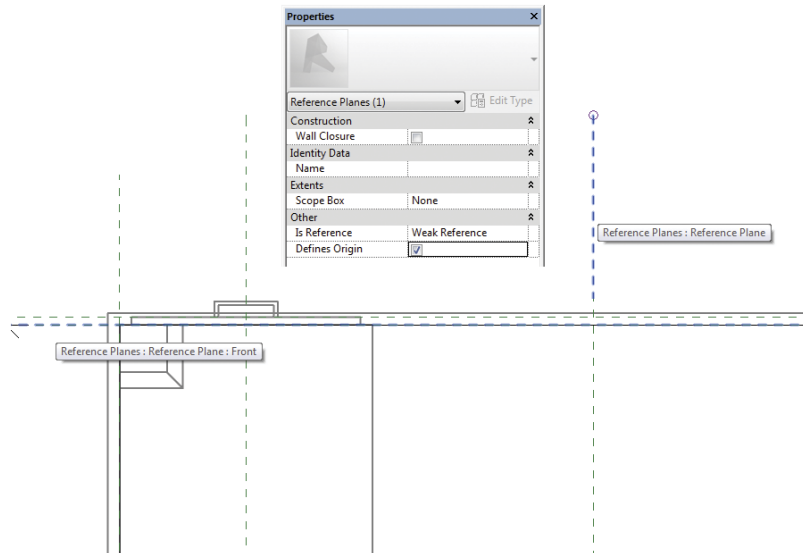

FIGURE 6.15 Editing the origin of a family
5. For each of the two reference planes (highlighted in Figure 6.15) select the plane and select the check box for the Defines Origin parameter in the Properties palette.